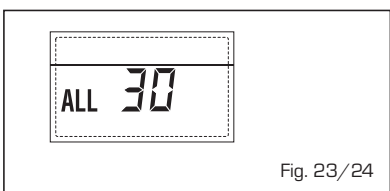

Fig. 23/24
- **ANOMALIA Sonda DESCARGA CASCATA "ALL 31" (fig. 23/25)**